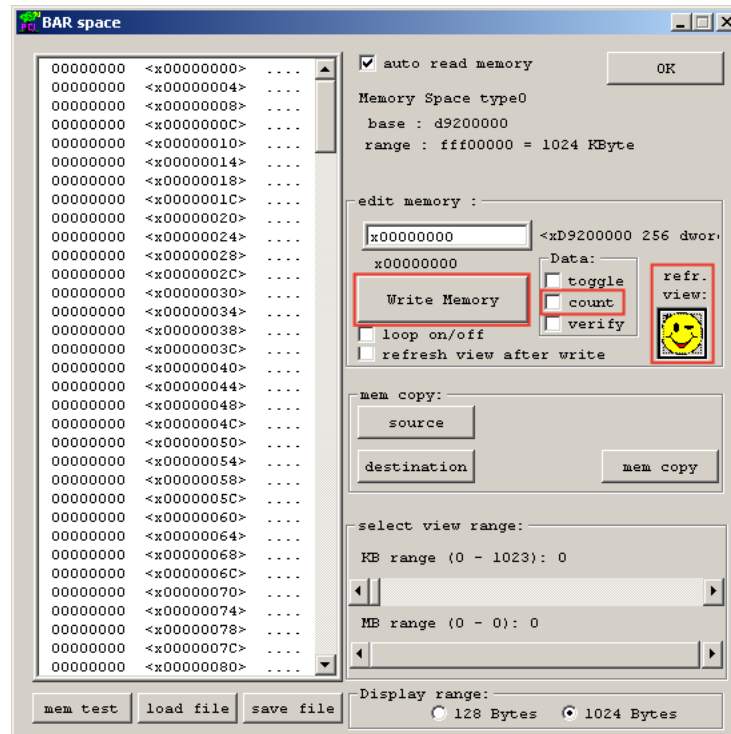

Figure 1-42: Restore Memory
25. Restore the memory by deselecting the count box and clicking the Write Memory button (as shown in Figure 1-42).